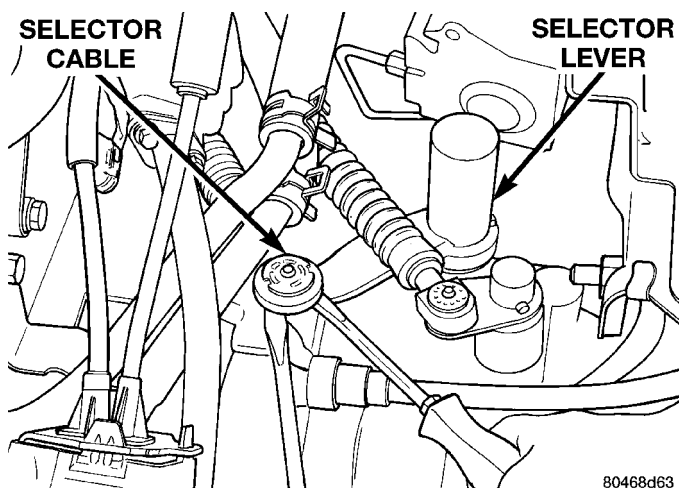
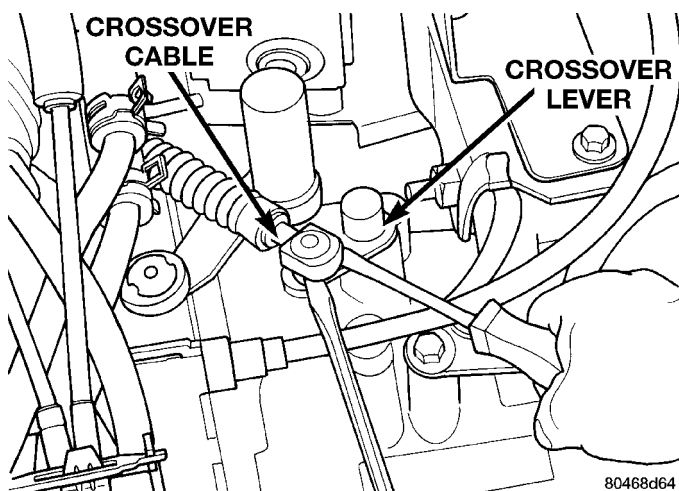

Fig. 10 Selector Cable Removal
Fig. 11 Crossover Cable Removal
- (1) Disconnect Power Distribution Center from battery tray and set aside.
- (2) Remove air cleaner inlet horn.
- (3) Remove battery and battery tray.
- (4) Disconnect gear shift cable ends from transaxle shift levers (Fig. 10) (Fig. 11).